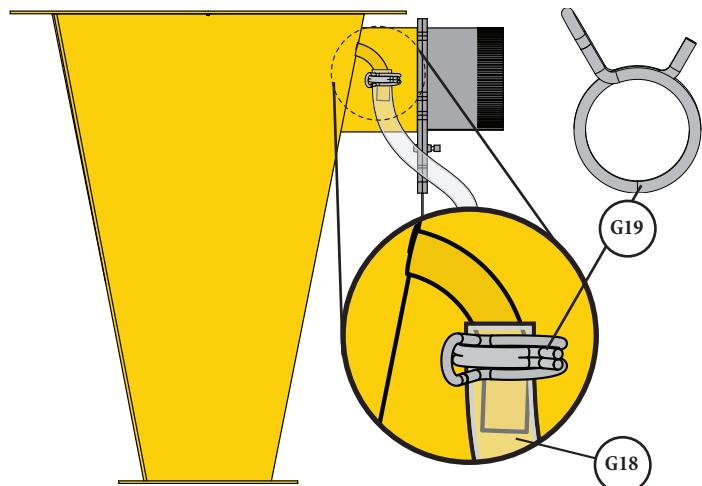

FIG. 19a
- 19 Using pliers, squeeze and open the Double Spring Clamp (G19) and slip it onto the shorter end of the Tubing Assembly (G18A). Then, with the clamp still open, slide the Tube Assembly (G18) onto the vent tube near the Cyclone's (E) inlet, closing the Spring Clamp once the hose is fully seated [FIG. 19a].